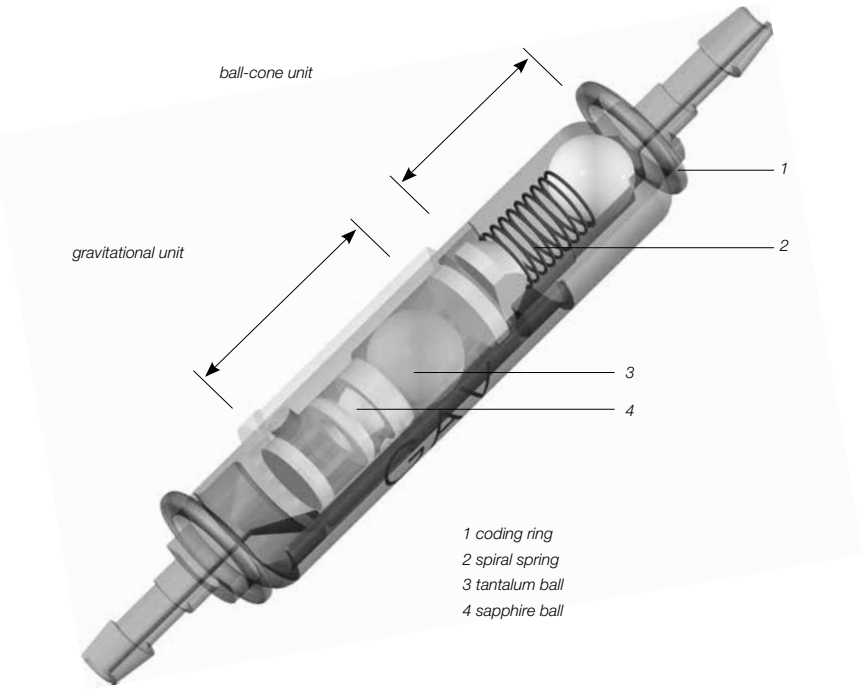

Fig. 1: Schematic cross section of the GAV
Fig. 1 shows a schematic cross section of the GAV. It consists of a sturdy titanium casing, which houses, in its proximal section, a well-trieed ball-cone unit. A spiral spring (2) maintains the opening pressure of the ballcone valve. The gravitational unit in the distal part consists of a tantalum ball (3), which defines the opening pressure of this valve, and a sapphire ball (4), which ensures its precise closure.